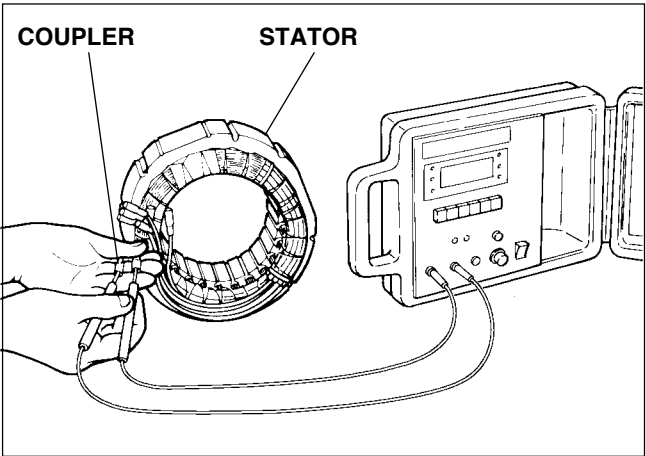

Fig. 2-2
(1) Remove control panel and disconnect stator wires at the connectors.
(2) Measure the resistance between terminals on stator leads. (See Fig.2-2) Refer to Table 2-2 for normal resistance.